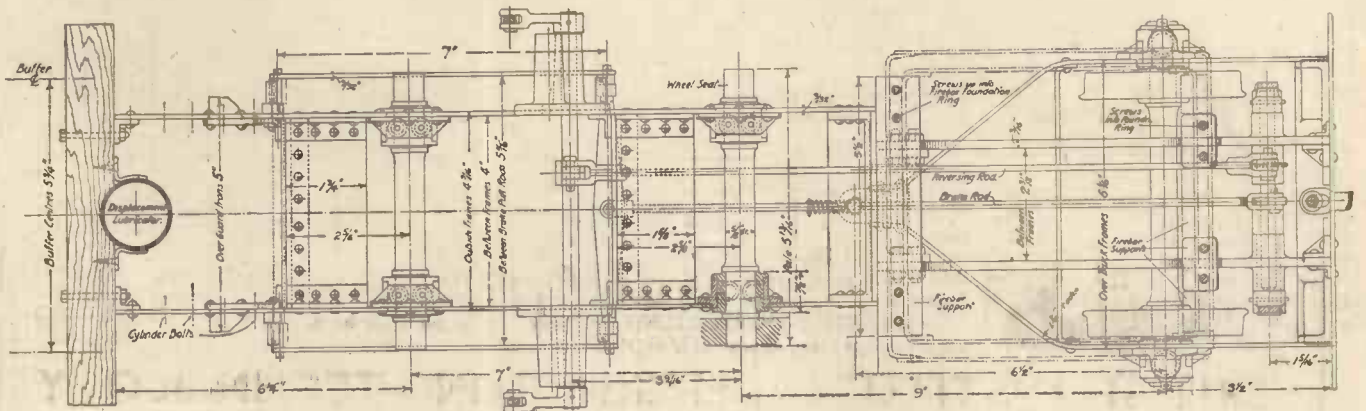
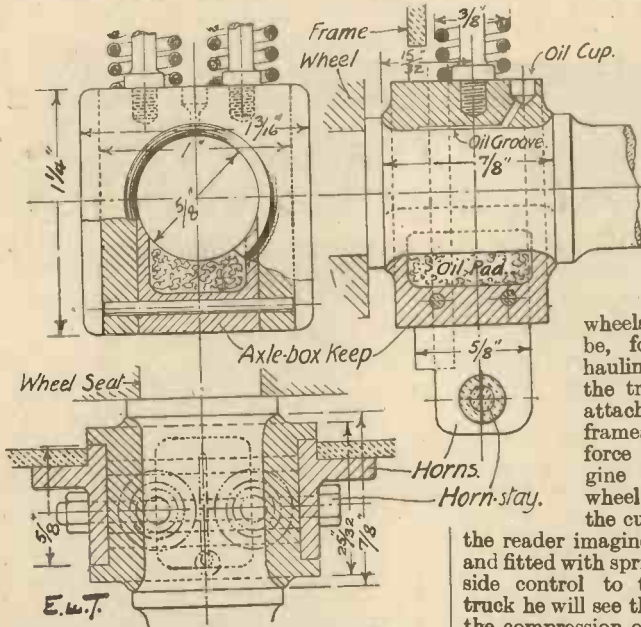

Fig. 9.—Plan of engine frames, radial truck, etc.
Fig. 11.—Details of driving and coupled axle boxes.
**T**HE frames and the complete chassis of the engine should now be constructed. The main frame plates are cut from 3/8-in. thick steel plate. The profile outline of these is shown in Fig. 7. In plan they are clearly indicated in the accompanying general arrangement plan (Fig. 9).
Fig. 9 shows in plan all three of the axles, the axle boxes and the horns. The axles will, of course, be turned from steel shafting. The axle boxes are cast in gunmetal and those for the driving and coupled axles should be fitted with oil pads, as shown in Fig. 11, which gives full details of them, all four being exactly alike. The keeps are, of
A view of the rods, beams, etc., which constitute the brake gear is shown in Fig. 9, which view must be considered in combination with the corresponding parts in Fig. 7 in order to obtain a clear understanding of the details and operation. The brakes are applied by means of a lever passing through the footplate. This lever is attached to a hollow shaft carried by the reversing gear shaft. The inner end of this tubular shaft is fitted with a short lever, to which the brake pull rod is coupled. This rod is led through the forked end of the radial truck pivot pin. The rod takes no